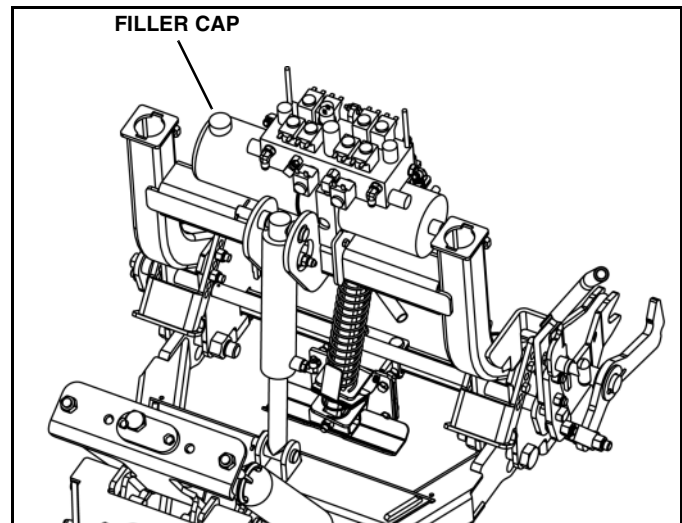

Figure 1-46
4. Remove the filler/breather cap from the reservoir. (See Figure 1-46).